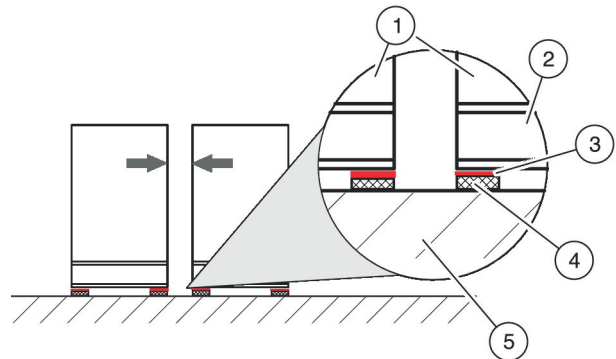

Fig. 15: Unit setup with anti-vibration elements
The positioning of the components (Fig. 15 /1) on a surface with a high coefficient of friction (e.g. rubber or elastomer plates (Fig. 15 /4) is considerably simplified by sliding plates (Fig. 15 /3).
- ▶ Position the sliding plates (Fig. 15 /3, provided by the client) under the base frames (Fig. 15 /2) of the individual components (Fig. 15 /1).